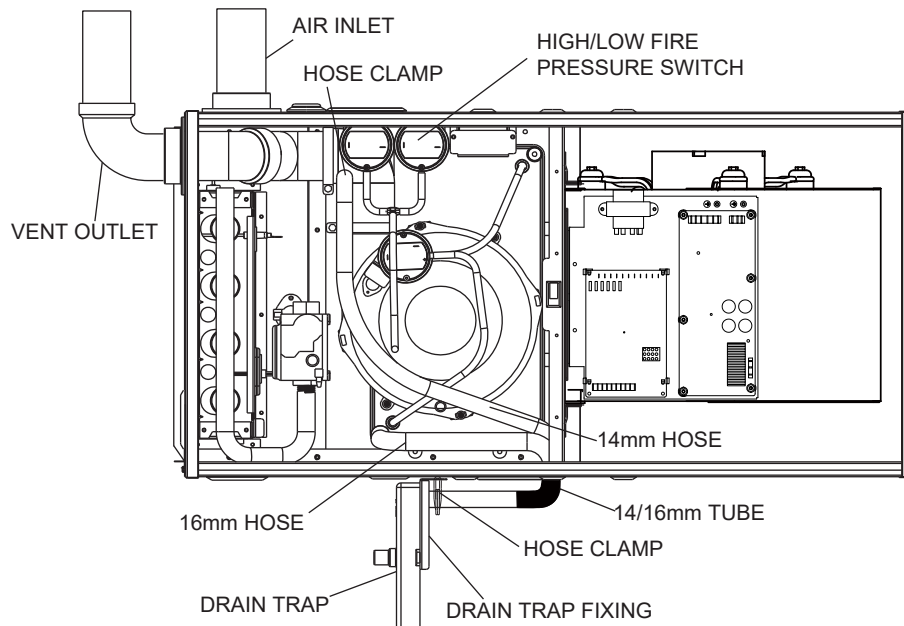
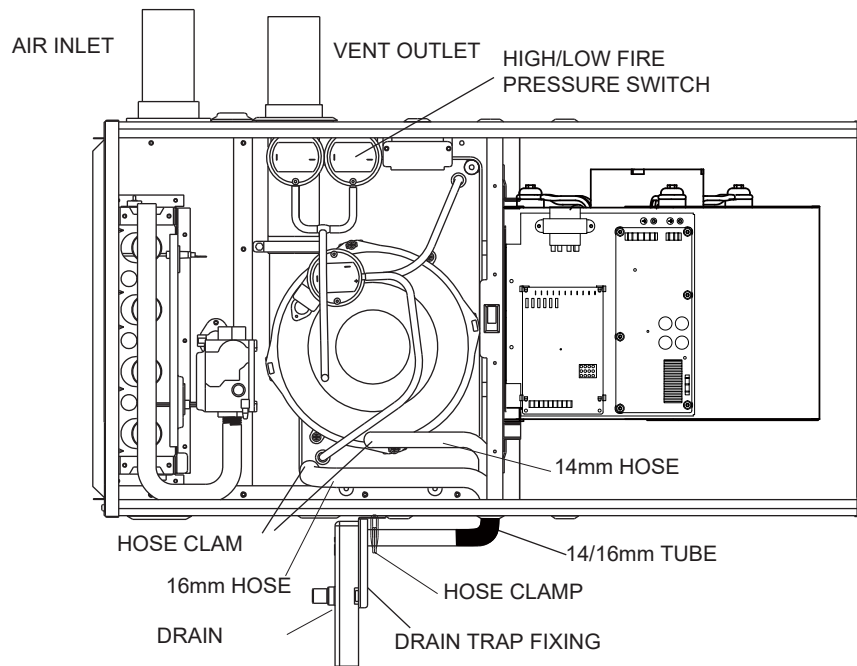
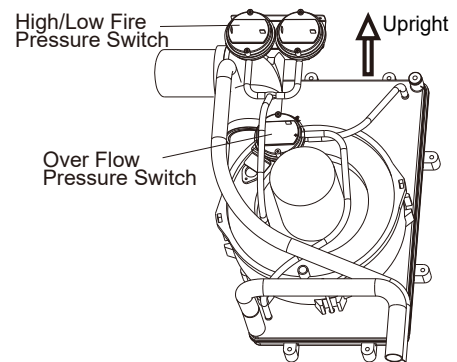

Fig. 6-10 Horizontal Left Side Installation, Vent Through Top Panel
Fig. 6-11 Horizontal Left Side Installation, Vent Through Side Panel
Fig. 6-12 Pressure Switch Position
FOR HORIZONTAL LEFT INSTALLATION (AIR DISCHARGE TO THE LEFT), HOSES OF CONDENSATE OVERFLOW PRESSURE SWITCH NEED TO BE REROUTE. (SEE FIGURE 6-10 & 6-11)
2. Air discharge to the left and vent through furnace top panel (see Fig.6-10 and Fig. 6-12)
2. Air discharge to the left and vent through furnace side panel (see Fig. 6-11 and Fig. 6-12)
In this installation, hoses connecting between ports of overflow protection pressure switch (overflow switch) and pressure tabs on the collector box **MUST be switched**. The overflow switch has two ports, which is different from two other regular pressure switches that have only one port. Make sure that black port (positive) is connected to the lower position tap on condensate collector box and gray port (negative) to higher tap of condensate box. Connecting incorrectly will result in failure to protect condensate overflow. (See Fig. 6-12)